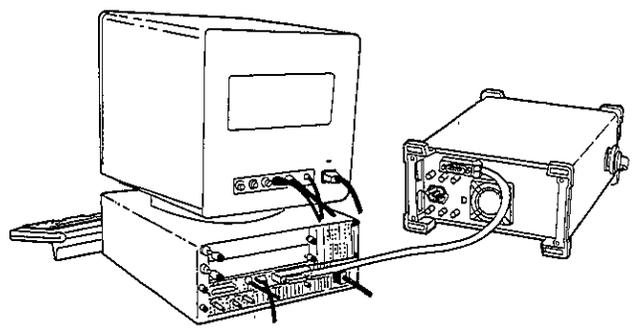

Figure 1-3
1. Connect the spectrum analyzer to the computer using the HP-IB cable as shown in Figure 1-3.